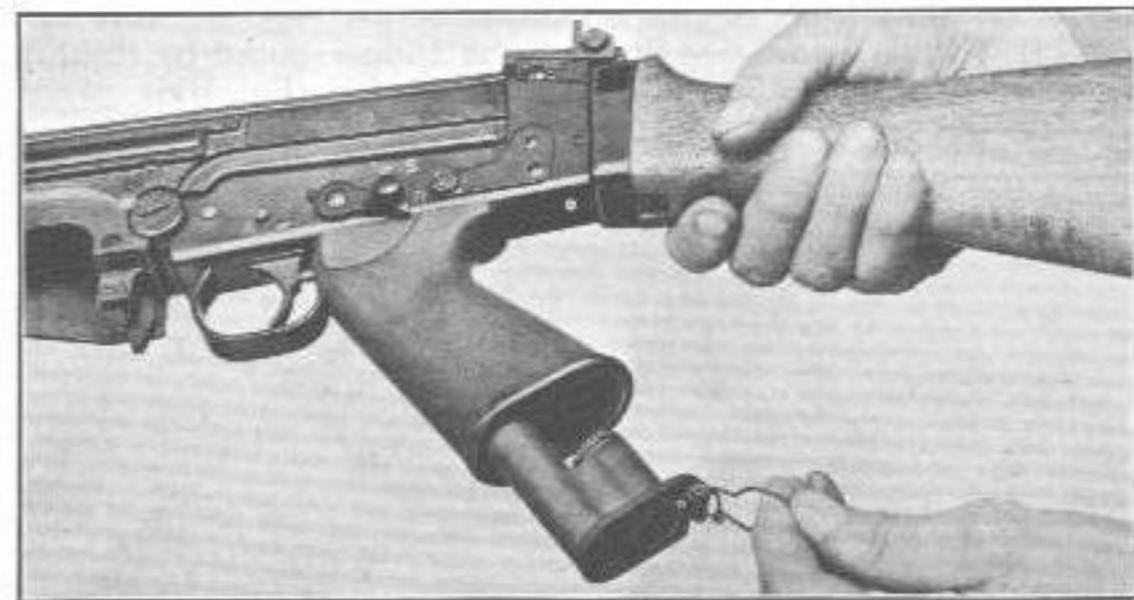

Fig. 103
e) **Pistol grip.** — Remove the cleaning kit from the pistol grip, — this is released by turning the spring detent (fig. 103).